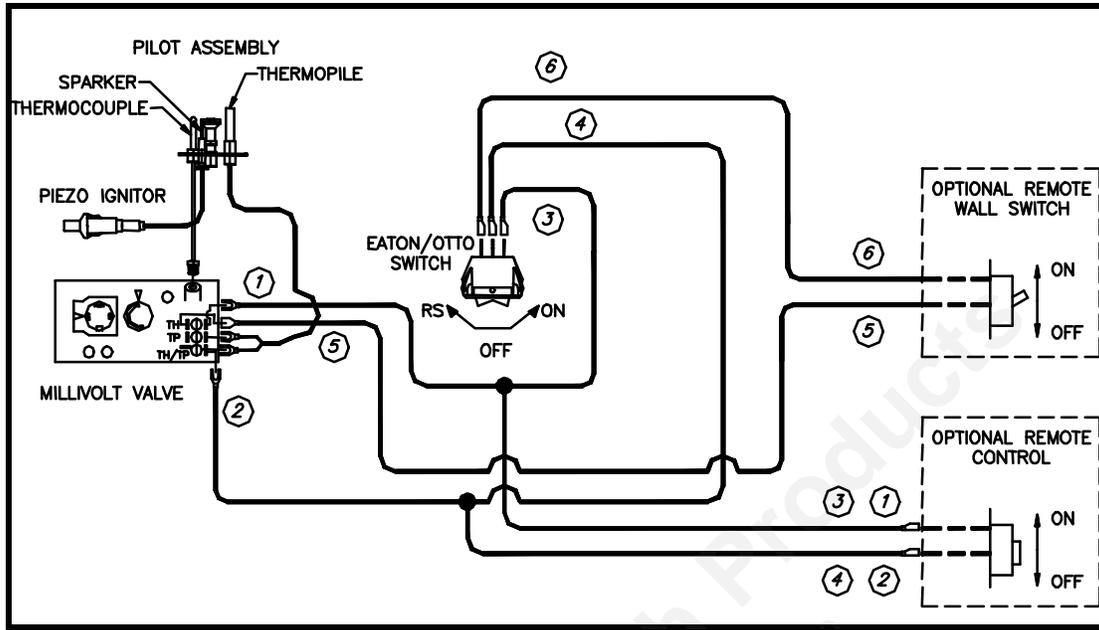

Figure 20: Wiring Diagram for Standing Pilot - Millivolt System
A remote wall switch and fifteen (15) feet of 18 Ga. wire are provided as standard with this fireplace. The wire has been pre-wired at the valve and routed through the right side, outer shell. (Access is also available on the left side through the square hole on that side). Position the wall switch inside of a junction box (not provided) at the desired location on the wall. Refer to Figure 20: Wiring Diagram for Standing Pilot - Millivolt System. Do not extend beyond the wall switch wire length provided.
5. Connect the connectors to the two 1/4" male terminals located near the gas valve as shown in Figure 20: Wiring Diagram for Standing Pilot - Millivolt System.
The millivolt (thermopile) control is a self-powered combustion gas control. Refer to Figure 20: Wiring Diagram for Standing Pilot - Millivolt System. The millivolt system and individual components may be checked with a millivolt meter having 1-1000 mV range. Conduct each check listed below by connecting the meter test leads to the terminals indicated. Refer to **OPERATING INSTRUCTIONS** for safety and lighting instructions.